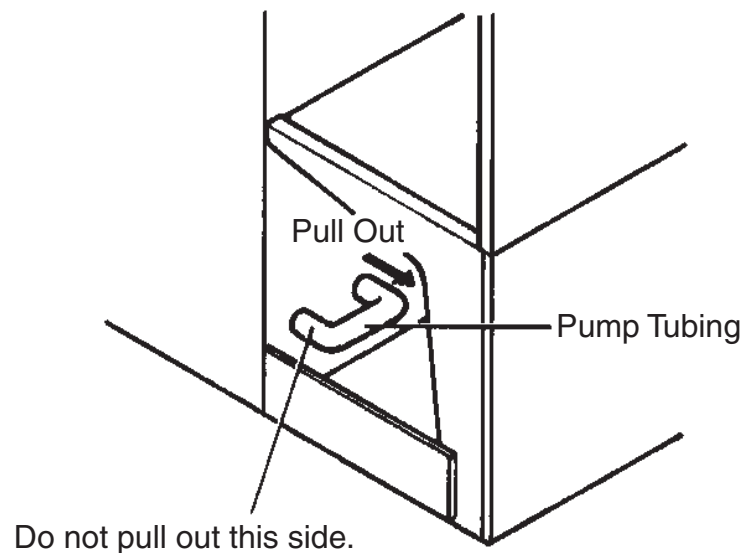

Fig. 3
- 4) Drain the water tank by removing one end of the pump tubing. See Fig. 3.